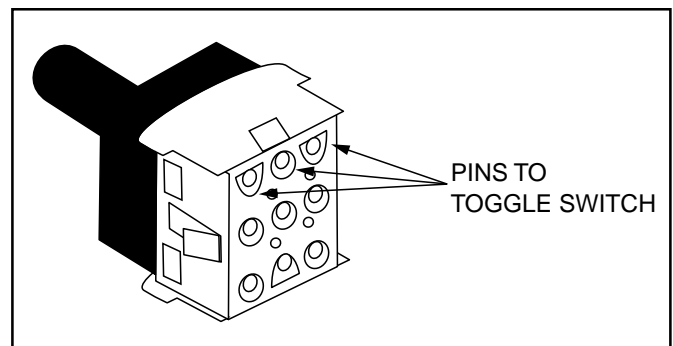

Figure 4.54. Toggle Connector Test
3. Disconnect the 9-pin plug from the tray of the power chair base and examine the shape of the pins. On two corners are pins that have flat sides on them. In the middle of these two pins is a round pin. These are the corresponding pins leading to the toggle switch. Using a multimeter set to measure resistance, check the wiring harness by performing the following procedure (refer to figure 4.54):